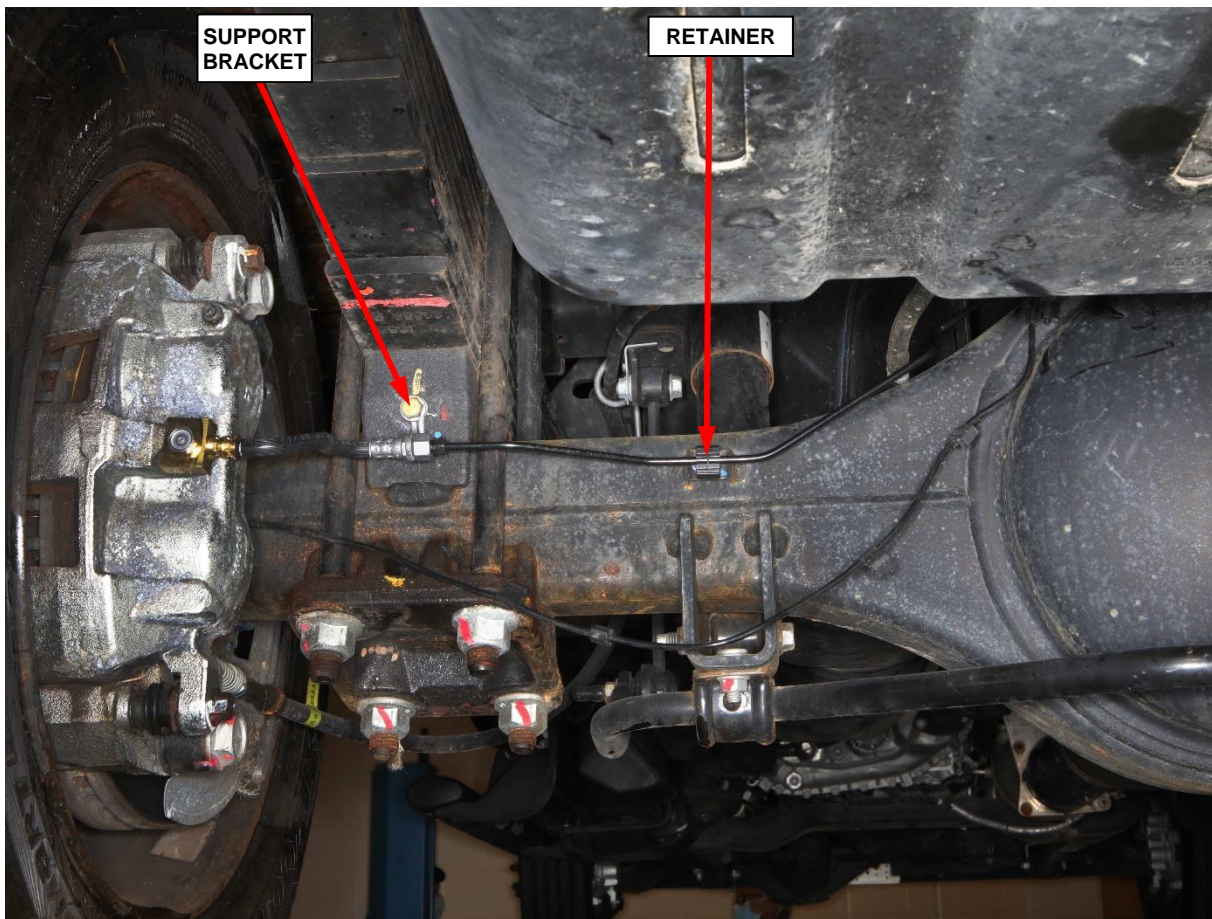

Figure 3 – Brake Tube Fasteners
7. Remove and **SAVE** the bolt securing the brake hose/tube support bracket to the rear axle (Figure 3).
8. Remove the brake hose/tube plastic retainer from the rear axle (Figure 3).
4. Secure the brake hose/tube plastic retainer to the rear axle (Figure 3).
5. Install the bolt securing the brake hose/tube support bracket to the rear axle. Tighten the bolt to 16 N·m (12 Ft. Lbs.) (Figure 3).